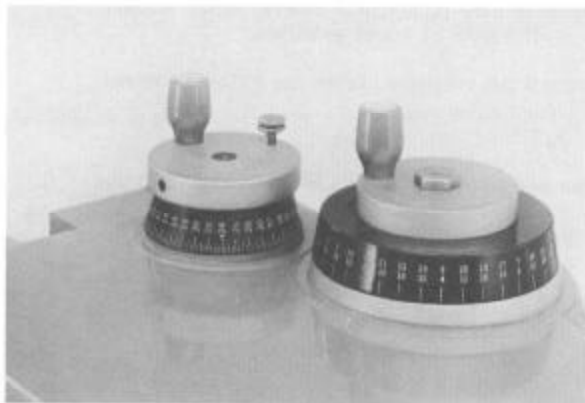

Figure 4a
1. The Spiropoint is adjusted for the specific drill diameter by setting the dial, graduated in $1/32$ " or one millimeter increments, on top of the unit (see Figure 4a). A cone grind setting is included on the dial. This setting is for truing the grinding wheel.